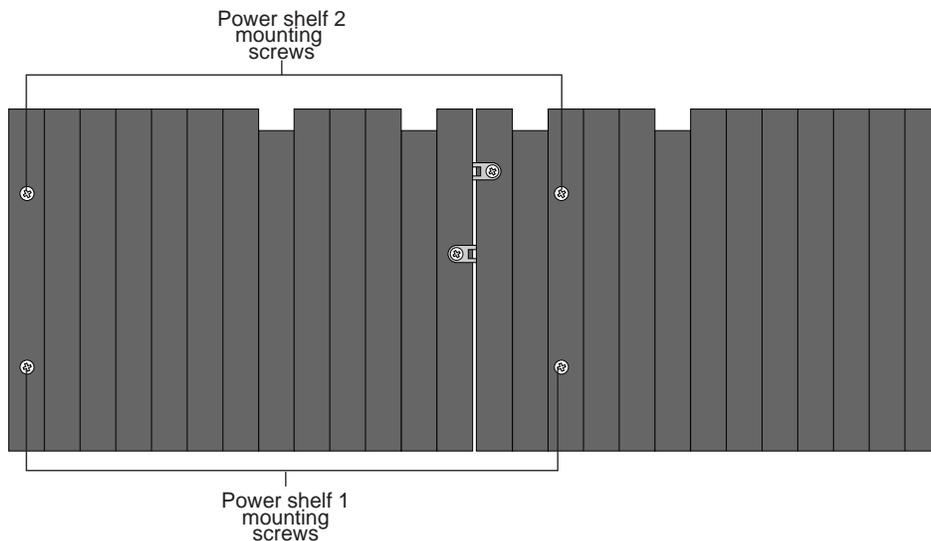

Figure 31. Power shelf chassis screw locations (side view)
9. Using a #2 Phillips screwdriver, remove the four screws (two on each side) that secure the power shelf chassis to the frame. See Figure 31 for screw locations.